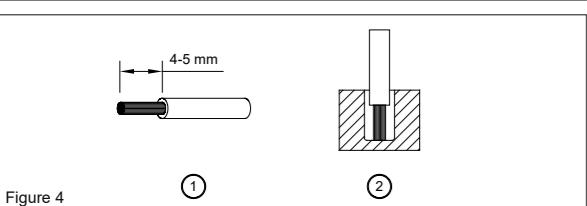

Figure 4
You can use flexible (stranded wire) or solid cables with cross section 0.52-3.3mm2 (AWG 20-12) and torque of 5.19Kgf.cm (4.5lb in). To secure reliable and shock proof connections, the stripping length should be 4-5mm (see Fig. 4 (1)). Please ensure that wires are fully inserted into the connecting terminals as shown in Fig. 4 (2).